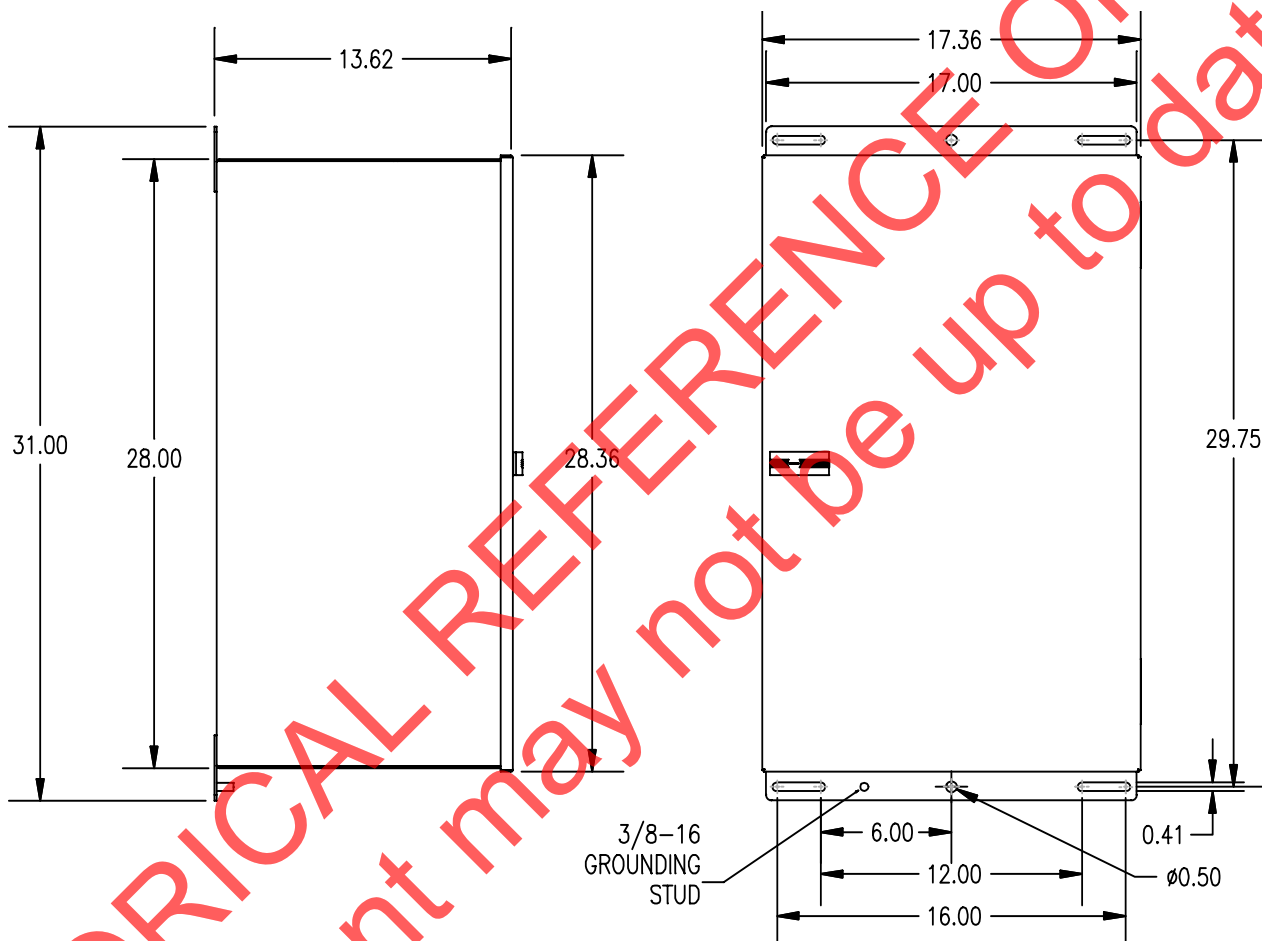

Figure 5.2 - UVIC Cabinet Dimensional Outline Drawing
1. There are three pre-drilled holes in each of the cabinet mounting flanges, (see Figure 5.2). Depending on the mounting surface, the cabinet may be mounted using either of the following sets of holes:
- (2) Centered 0.41" mounting holes
- (4) Mounting slots 0.41" x 2" with 12" to 16" centers.